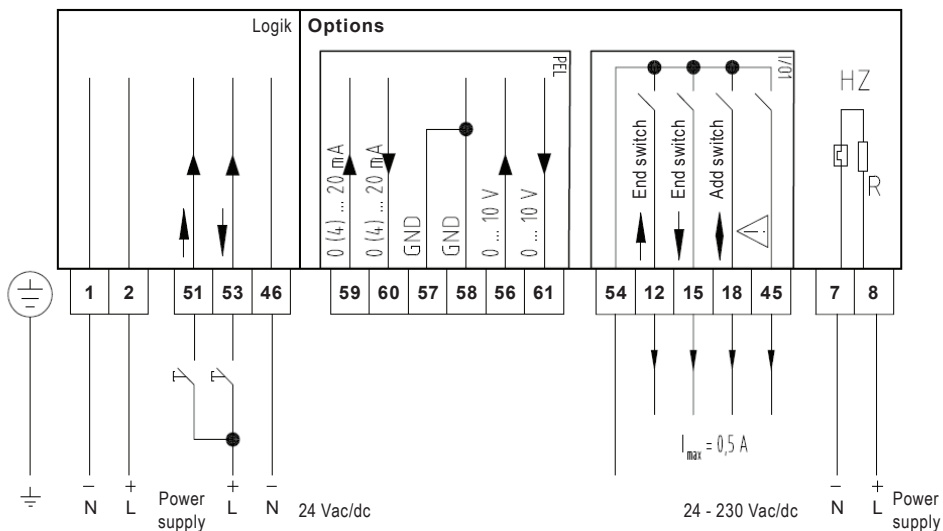

Fig 4. AEL8 Terminal diagram 100-240 Vac
A terminal diagram for the actuator can be found inside the actuator cover and Figure 4 of this Installation and Maintenance Instructions.
Please refer to Figure 4 for all AEL8 electrical connections unless otherwise stated.
- Connect wires as indicated in Figure 4.